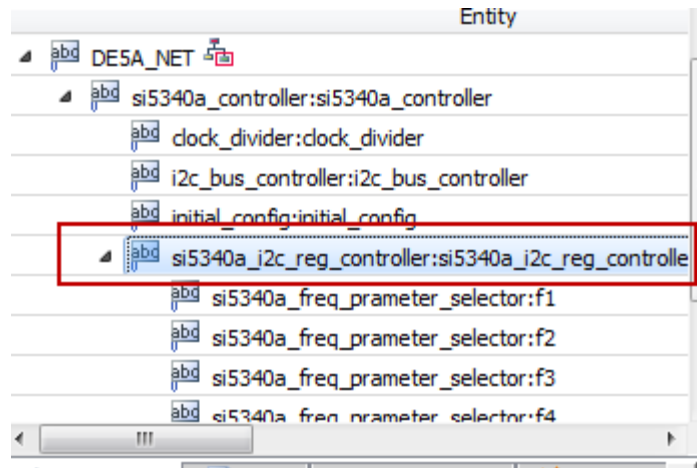

Figure 5-9 Sub-Module file "si5340a_i2c_reg_controller.v"
4. Open Si5340 control IP sub-module “si5340a_i2c_reg_controller.v “ as shown in **Figure 5-9**, refer Design Report parameter to modify sub-module corresponding register value (See **Figure 5-10**).